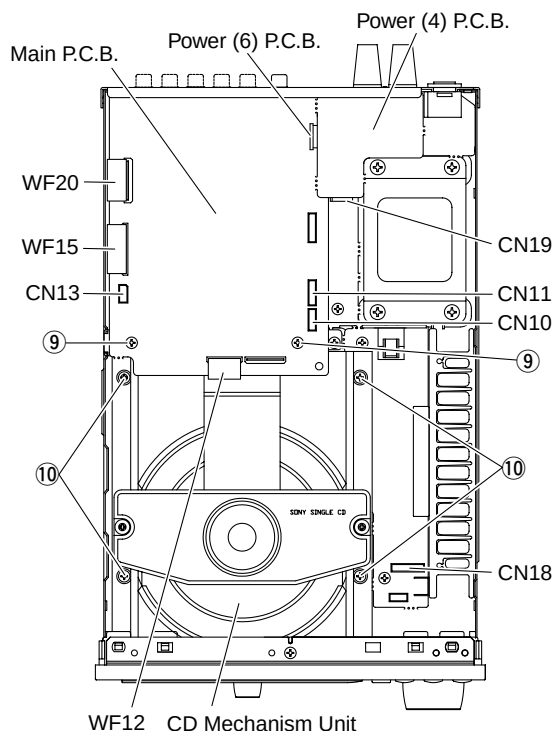

Fig. 4
- Disconnect the connector (WF20). (Fig. 4)
4. Removal of Main, Power (4) and Power (6) P.C.B.s
- Disconnect the connectors (WF12, WF15, CN10, CN11, CN13, CN18 and CN19). (Fig. 4)
- Remove 2 screws (⑨) and then remove the Main, Power (4) and Power (6) P.C.B.s. (Fig. 4)
- Disconnect the connectors (WF12, CN10 and CN11). (Fig. 4)
- Remove 4 screws (⑩). (Fig. 4)
- Remove the CD Mechanism Unit. (Fig. 4)